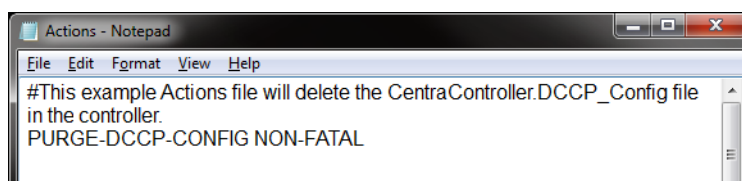

Fig 64. Example Actions.txt File to Delete the CentraController.DCCP_Config File
- **Actions.txt** - Edit the Actions.txt file so that the only action is PURGE-DCCP-CONFIG (see Fig 64.).